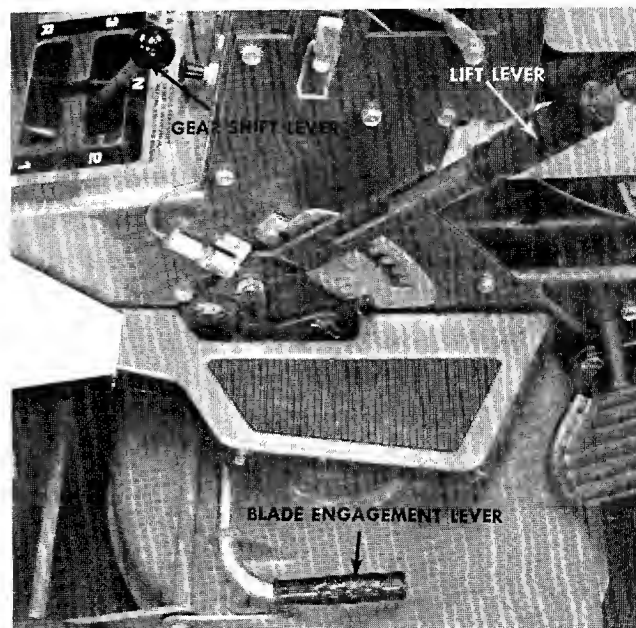

FIGURE 13. CONTROLS
- Step 1. With the machine set on level ground place gear shift lever in neutral (N). See figure 13.
- Step 2. Place the lift lever in the DISENGAGE position. See figure 13.
Step 7. Lower the cutting deck with the lift lever. See figure 13.
Step 8. Slowly engage the blade engagement lever. See figure 13.
Move the blade engagement lever forward to stop the blades from turning. See figure 13.